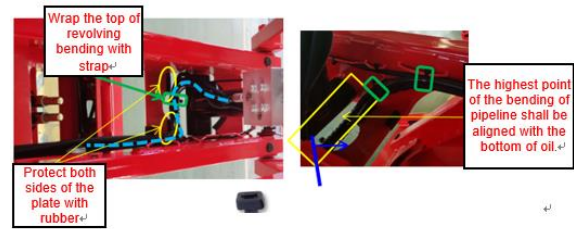

Fig. 4.19 Installation of first layer pipeline
- e) As shown in Fig. 4.19, the inlet, return pipe, fork harness and stay wire are arced on the lower side of the bottom end of the oil cylinder, as shown by the blue dotted line in the figure. When turning, the oil pipe harness is flush with the bottom end of the oil cylinder under the natural state of the arc outer dome; Note: the cable is not allowed to be completely tied, and there is a movable margin. All pipeline shall be bound to the routing round steel on the inner wall of the first layer fork, and the blue line position oil pipe shall be respectively wound with 500 mm/19.69 in long PVC protection. The PVC shall be tightly wound and both ends shall be fixed with black tape (the